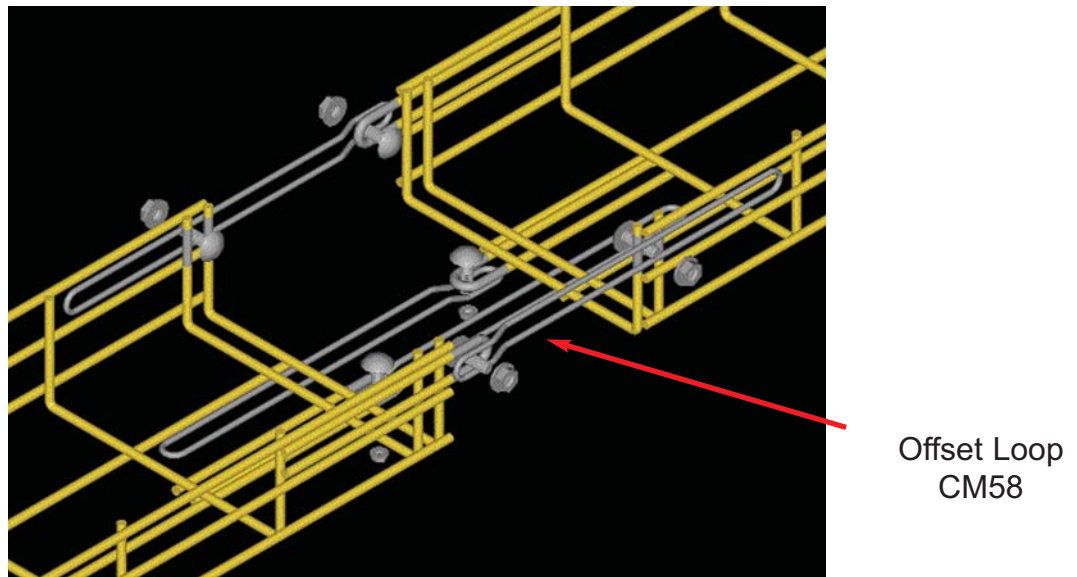

FIG. 4
7. When bridging a gap less than 12 inches between two adjacent tray sections that are less than 12 inches wide, use two CM58 Extension Loops to connect tray side sections and two CM58 Extension Loops to connect the bottom of the adjacent tray. The Extension Loops are to be secured to the connection loop of each tray with a carriage bolt (CM68) and nut (CM67). Tray sections 12 inches or wider require three Extension Loops to connect the tray bottom (**See fig. 4**).